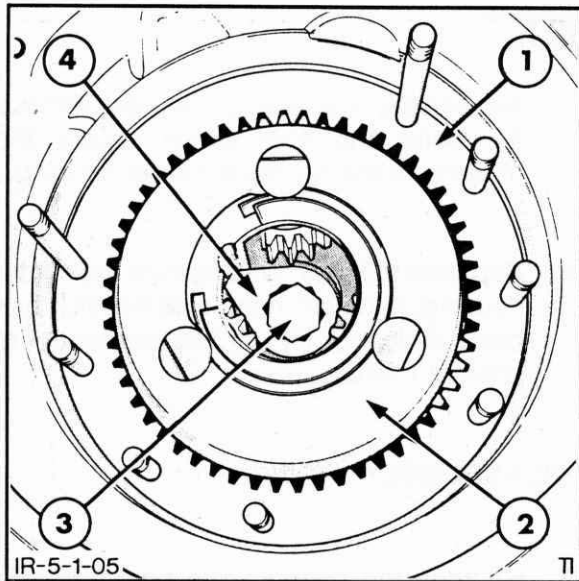

Figure 5-5
7. Remove the axle shaft bolt lock, axle shaft retaining bolt, axle shaft retaining washer, and selective spacer. The planet gears may have to be rotated to permit removal of the bolt lock, Figure 5-5.